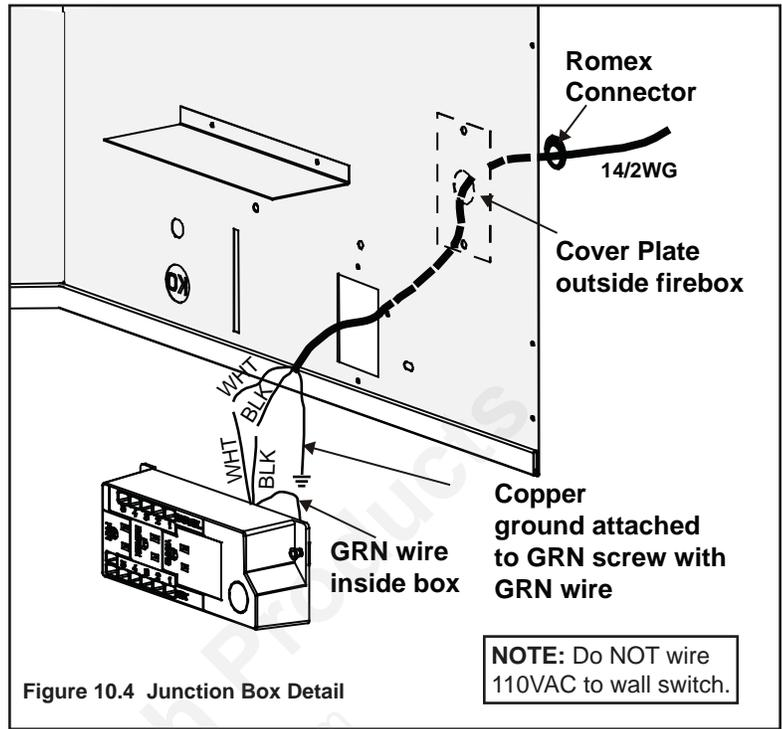

Figure 10.4 Junction Box Detail
It is recommended that a 110 VAC junction box be installed for use with a fan or remote control. (See Figure 10.4 for junction box wiring).
- Remove the cover plate located on the outer shell right side (see Figure 10.4).
- Remove the screw attaching the junction box/receptacle to the outer shell, rotate the junction box/receptacle inward to disengage it from the outer shell (see Figure 10.4).